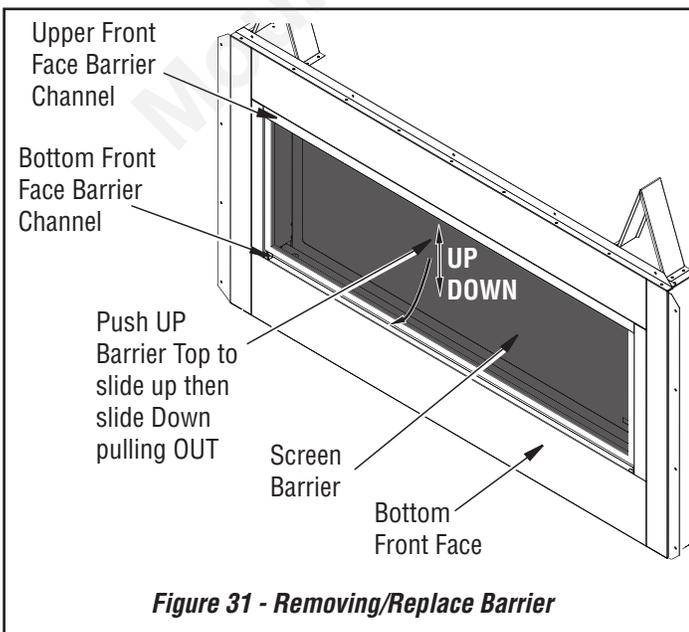

Figure 31 - Removing/Replace Barrier
1. To remove barrier, push barrier top up to slide it up then slide down pulling barrier out (see **Figure 31**).
2. Install the barrier by sliding in into the top channel with the flat side toward the fireplace, then swinging the base of the barrier into the bottom channel and lowering it into place (see **Figure 31**).